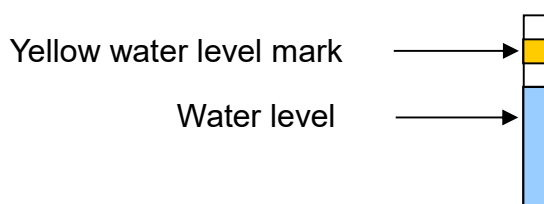

Figure 11
**CAUTION:** Only fill the distilled water into the sterilizer. DO NOT fill the water over the yellow water level mark, as shown in Figure 11.